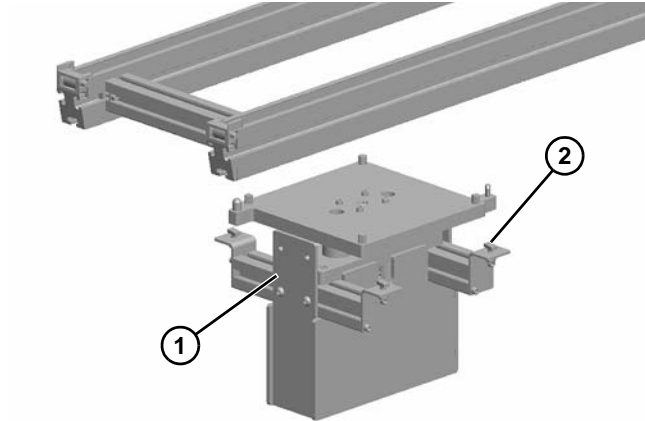

**Figure 13**
4. Adjust sensors (**Figure 13, item 1**) in/out or up/down to maintain clearance between pallet (**Figure 13, item 2**) and sensor.